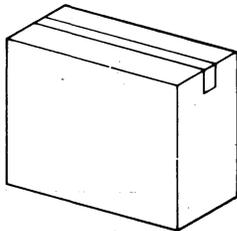

Fig. 7—Pedestal Carton
3.05 Carefully turn carton containing pedestal upside down and cut tape. Fold carton flaps out (Fig. 7).